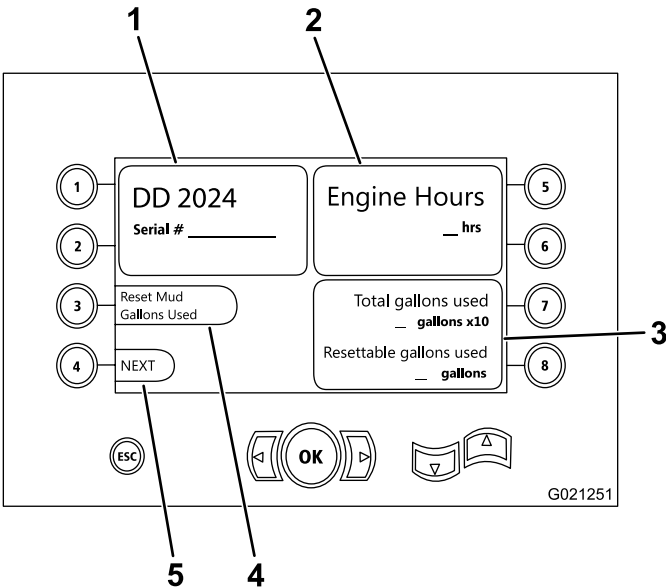

Figure 14
- The machine model and serial number (Figure 14).
- The number of engine hours for the machine (Figure 14).
- The number of drilling fluid-gallons used and the number of re-settable drilling-fluid gallons used (Figure 14).
Note: Press button 3 to reset the number of drilling-fluid gallons since the last reset (Figure 14).